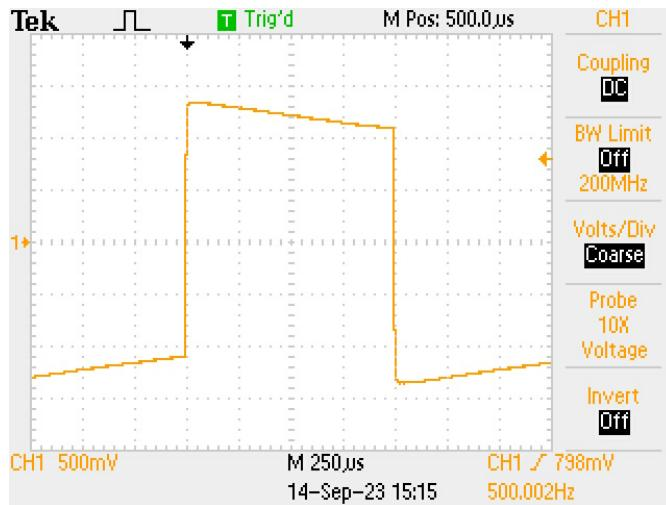

Figure 2.5: Tilt Setup
- (c) Adjust the frequency so the waveform tilt is prominent, $\approx 500\text{Hz}$. See Figure 2.5 *Tilt Setup*.